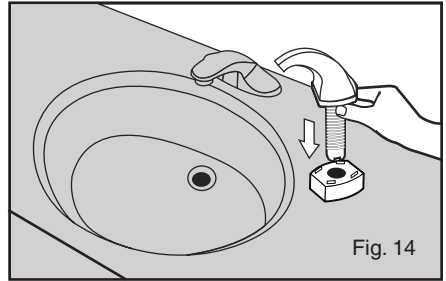

Fig. 14
15. Insert the threaded soap discharge shaft through the above counter spacer and hole in countertop. (see figure 14)